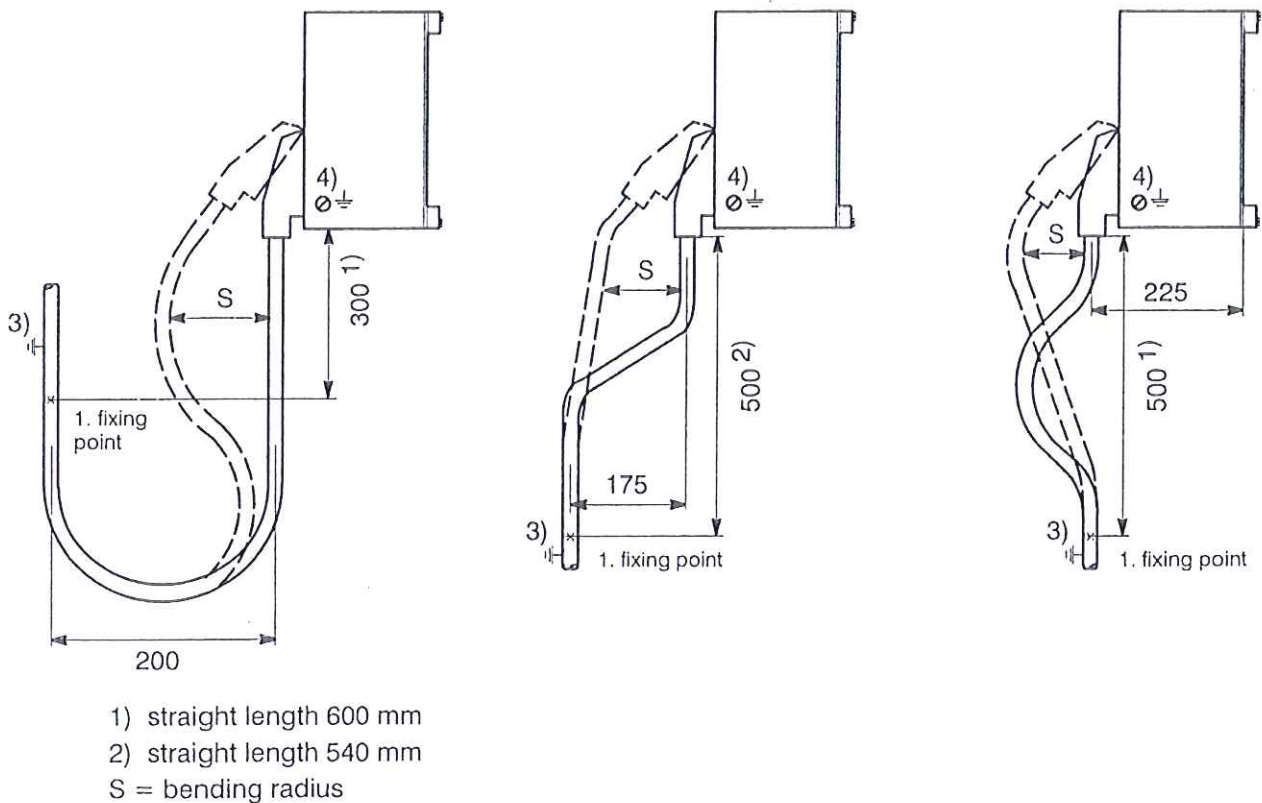

Fig. 6.1 Dimensions for attaching the cables (side view)
- First, connect the cable connector for the unit. Because the fixing dimensions of the module rack are known, it is possible to attach the cable for the interface and control modules and the manual control module as shown in the dimension drawings Fig. 6.1 and 6.2. It is important to allow a bending radius "S" for removal of the connector. The connecting cables are connected on the marshalling level (e.g. terminal strip, plug distributor, etc.) as shown in the circuit diagram. All connecting cables –X801 to –X808 are enclosed in a copper cable that must be connected to the PE bar on the terminal block by the shortest possible path (3).